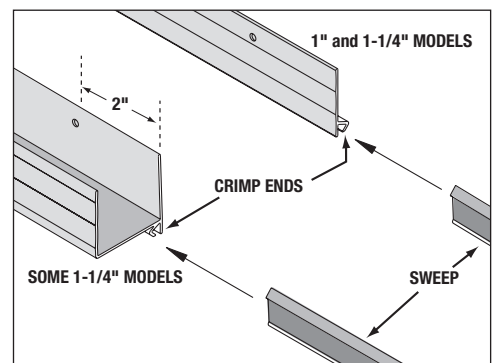

FIGURE 6
See Figure 6
2. Drill two (2) 3/32" pilot holes on the inside of the door approximately 2" from end of expander.
3. Install two (2) #6x3/8" panhead screws. **See Figure 6**
2. Drill two (2) 3/32" pilot holes on the outside of door approximately 2" from end of expander.